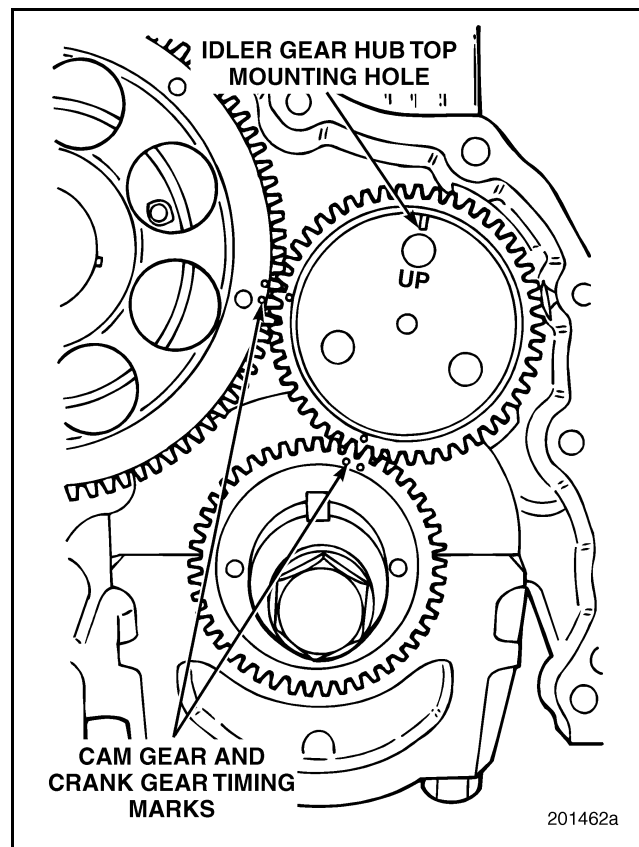

Figure 354 — Hub Correctly Positioned on Block
1. With the engine in an upright position, place the idler hub in position against the engine block and verify good alignment with the mounting bolt holes in the block (Figure 354).